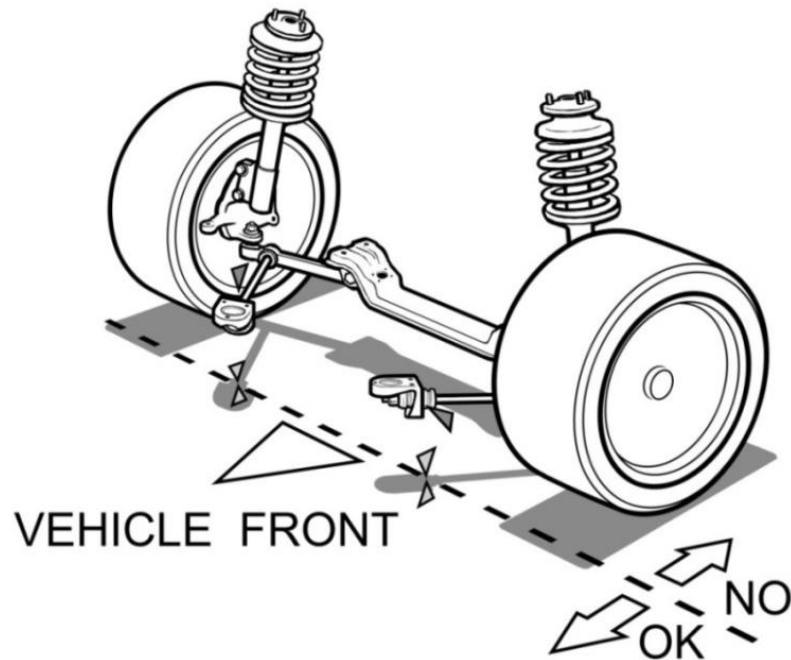

Figure 1
- D. Front suspension examples are in Figure 1 and 2.